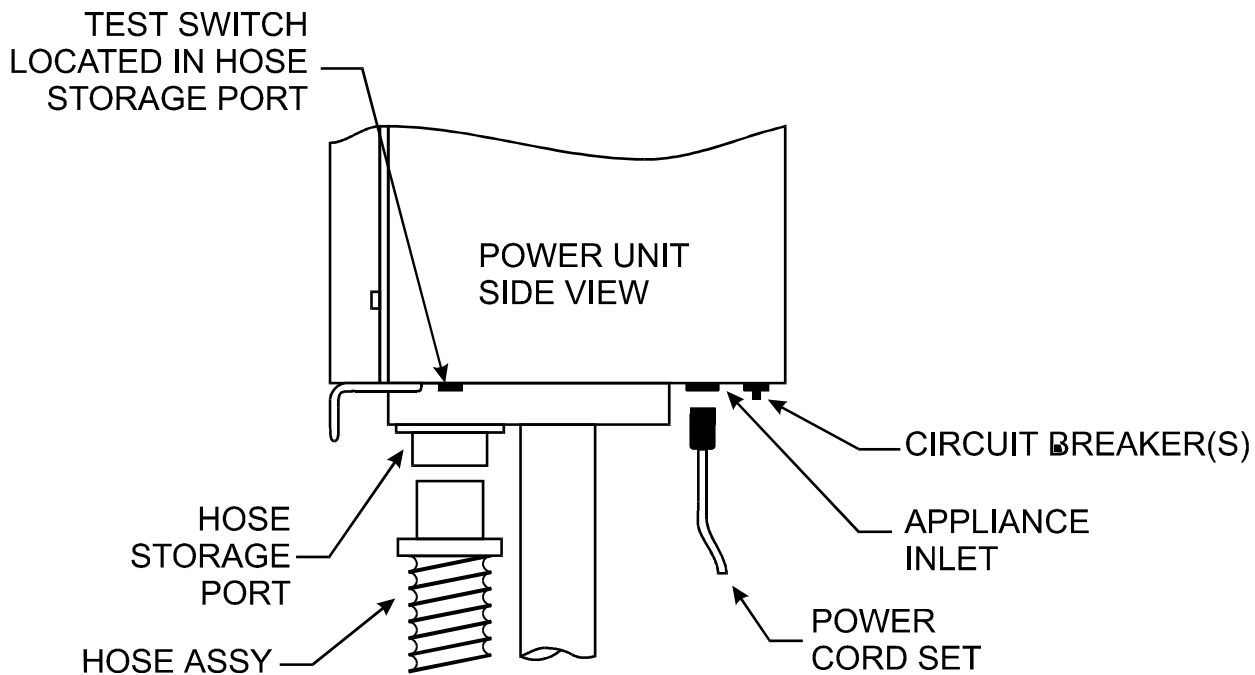

Fig. 1-2
1. Press the push-button Test Switch located in the center of the Hose Storage Port positioned toward the rear of the bottom panel (see Fig. 1-2). This will initiate the automated Self-Test sequence.
3. Connect the free end of the system air hose to the Hose Storage Port located on the bottom of the heater unit (see Fig. 1-2).